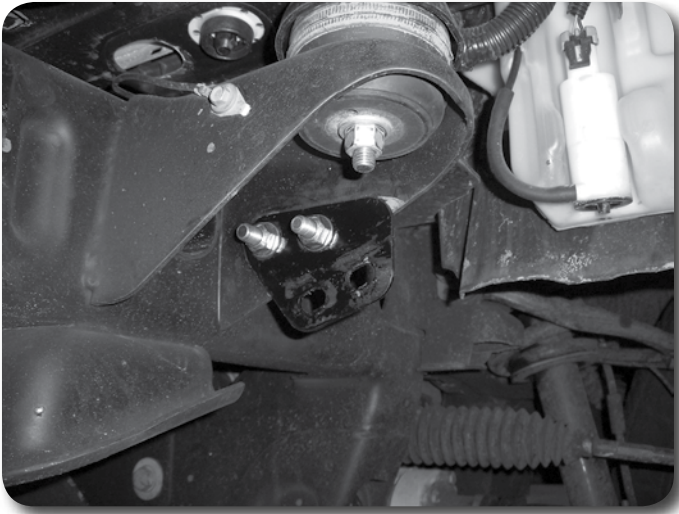

Figure 20
45. Attach the provided outer bumper support relocation brackets to the original support mount location on the frame **Figure 20**. Fasten the brackets with 7/16" x 1-1/4" bolts, nuts and washers. Leave hardware loose.